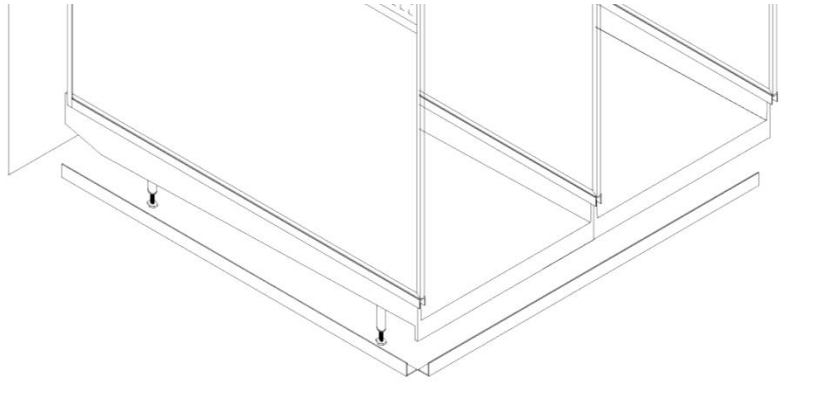

Fig. 27
- Place aluminum angle supports along chalk lines to determine proper fitment. Some trimming of aluminum angle supports using a 4 1/2" Angle Grinder w/Abrasive Cutoff Wheel may be necessary to achieve proper fitment, depending on individual application. See Fig. 27.